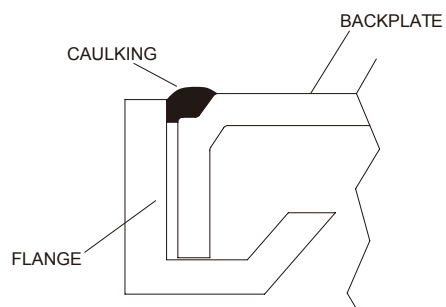

FIG. 4
4. For wet location, see FIG 4.
CAUTION: For wet locations. In accordance with Underwriters Laboratories requirements, a line of caulking compound such as acrylic latex or silicone must be placed around the perimeter of backplate also contacting the flange (as shown) to seal against mounting surface keeping water away from the outlet box and back opening. (FIG. 4)